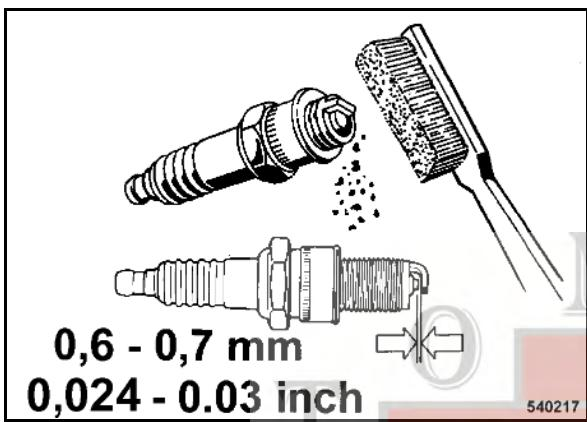

Fig. 40 □
- Unscrew the spark plug, check the spark plug visually and clean it if necessary (Fig. 40).